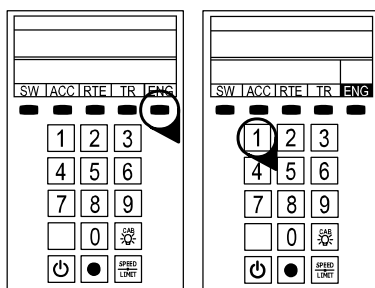

Figure 1. LEGACY engine selection
4. As illustrated in Figure 1, press ENG and 1 (or your selected ENG ID#) to address the locomotive with your LEGACY CAB-2 Remote Controller.